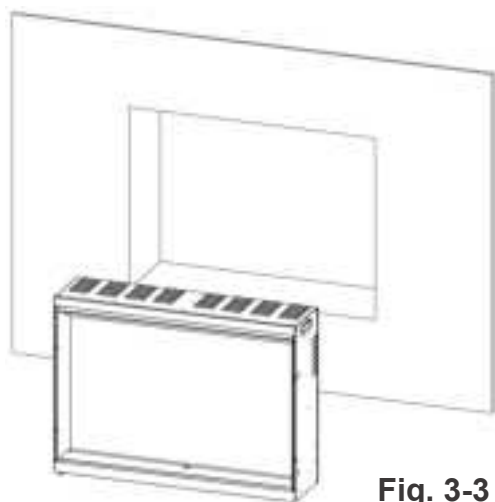
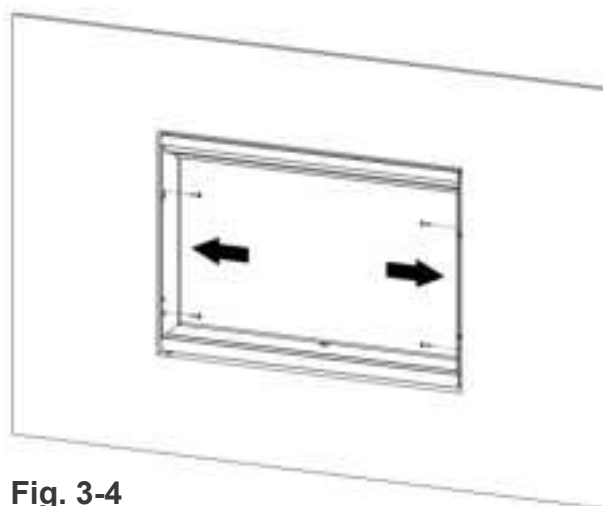

Fig. 3-3
Fig. 3-4
- D. Insert the fireplace into the rough-in frame and then secure it by installing **4** wood screws (**A**) through the mounting holes (Fig. 3-3, Fig 3-4).